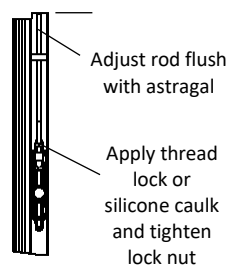

Fig. 9
- Astragal is notched on both ends. Identify which end will be turned up for either right or left side “stationary door”. (Fig. 7) Notched end of astragal will be toward inside of “stationary” door. After properly identifying position of astragal, measure from top of door to bottom of door and cut astragal accordingly. (Fig. 8) Set both (top and bottom) flush bolts in the open (unlocked) position. Adjust the flush bolts on astragal by turning the top rod so that tip of rod is flush with the top of astragal. Use thread lock or silicone caulk on the lock nut and tighten nut securely on rod. (Fig. 9) Repeat procedure for bottom flush bolt.